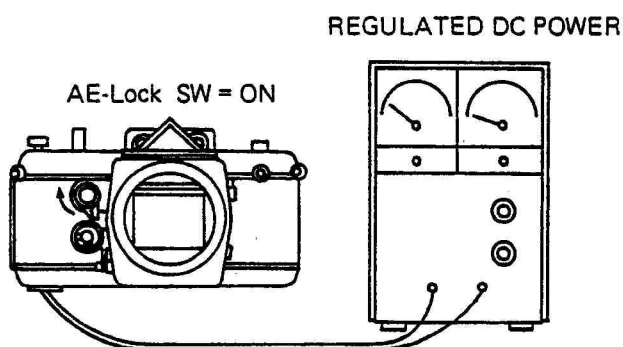

Fig. 72
- Supply 6 volts to the camera from the Regulated DC Power Supply as shown in (fig. 72).